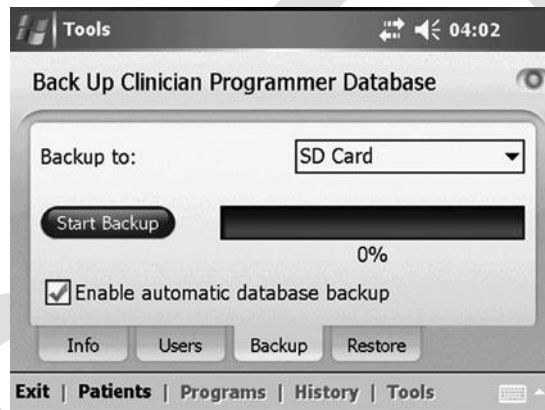

Figure 8-7. Backing up the clinician programmer database.
1. From the TOOLS MENU, press the BACKUP TAB. See Figure 8-7.
1. From the TOOLS MENU, press the BACKUP TAB, and then check “Enable automatic database backup.” The clinician programmer database will back up once per day and each time the application is exited. See Figure 8-7.